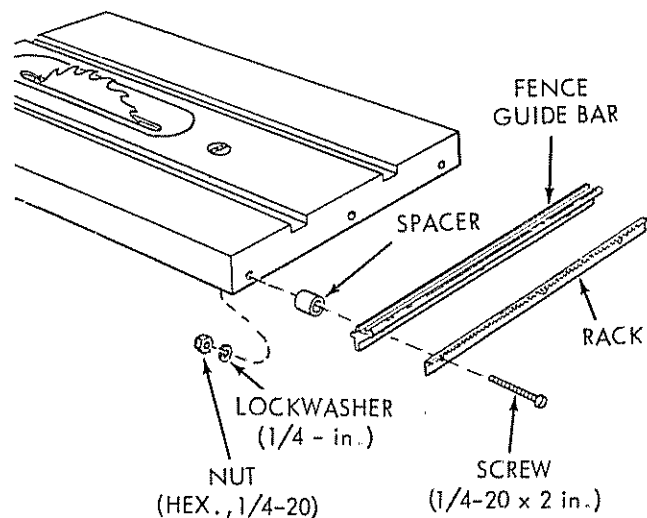

Figure 19
- Position the table rack against lower edge of fence guide bar so that rack teeth are on upper edge of rack and pointing outward. Align the three holes in both parts. (See figures 19 and 20.)
- Insert one of the three 1/4-20 x 2-inch screws through holes at one end of rack and guide bar and place a guide bar spacer on the end of the screw. (See figure 19.) Insert the screw through the saw table and install a 1/4-inch lockwasher and 1/4-20 hex nut. Do not tighten the screw at this time.